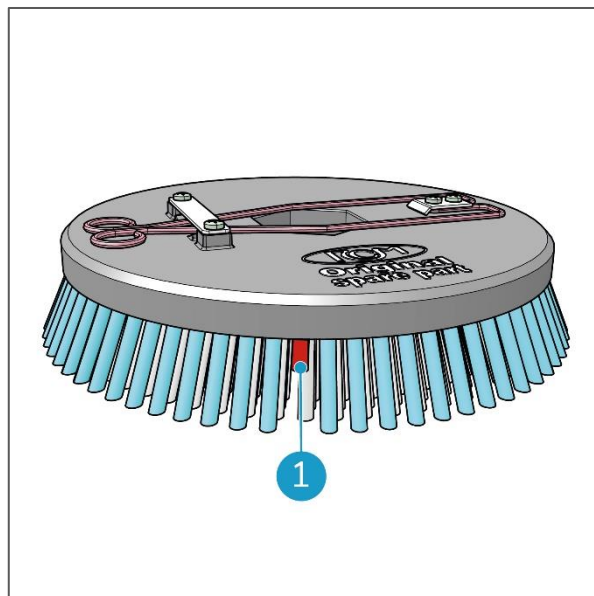

Figure 51
2. Check the condition of the disc brushes. If the bristle length is near the length of the red bristle group (Figure 51, pos 1), it needs to be replaced.